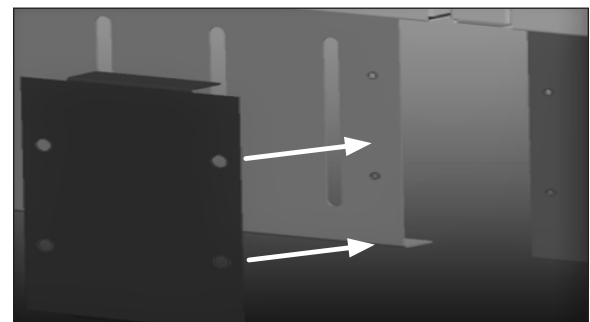

Fig. 17 Kickplate linking plate
14. Use the front kickplate linking plate to fix the front and side kickplate (Fig. 17).